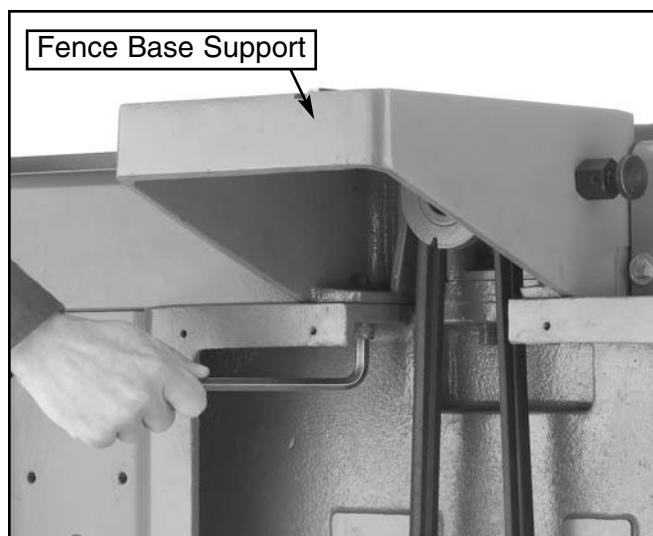

Figure 3. Attach fence base support to jointer assembly.
1. Using (2) M12-1.75 x 35 cap screws, (2) M12 washers, and (2) 5/8" I.D. x 3mm thick x 38mm O.D. special washers, attach the fence base support to the jointer assembly as shown in **Figure 3**. Make sure the special washers are between the fence base support and the jointer assembly. The 2 washers go between the cap screw head and the jointer assembly. Tighten securely.